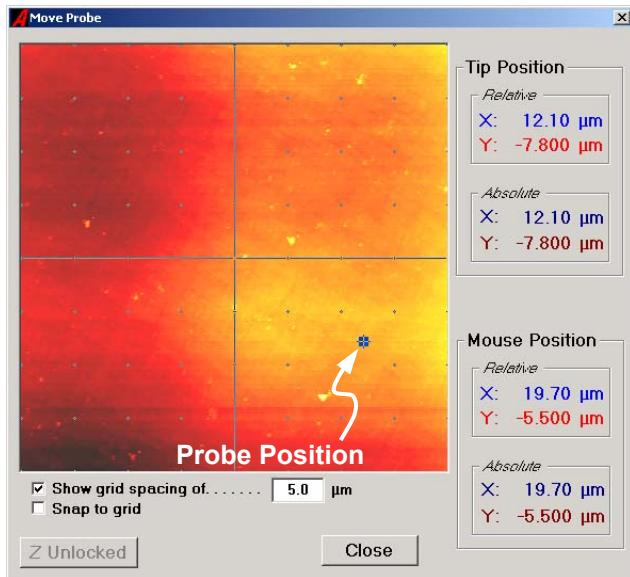

Figure 10-12 The Move Probe window.
- The current position of the probe is indicated with the square feducial mark shown in Figure 10-12. (Except, of course, if the probe position falls outside of the image area. Then the feducial will not appear.)